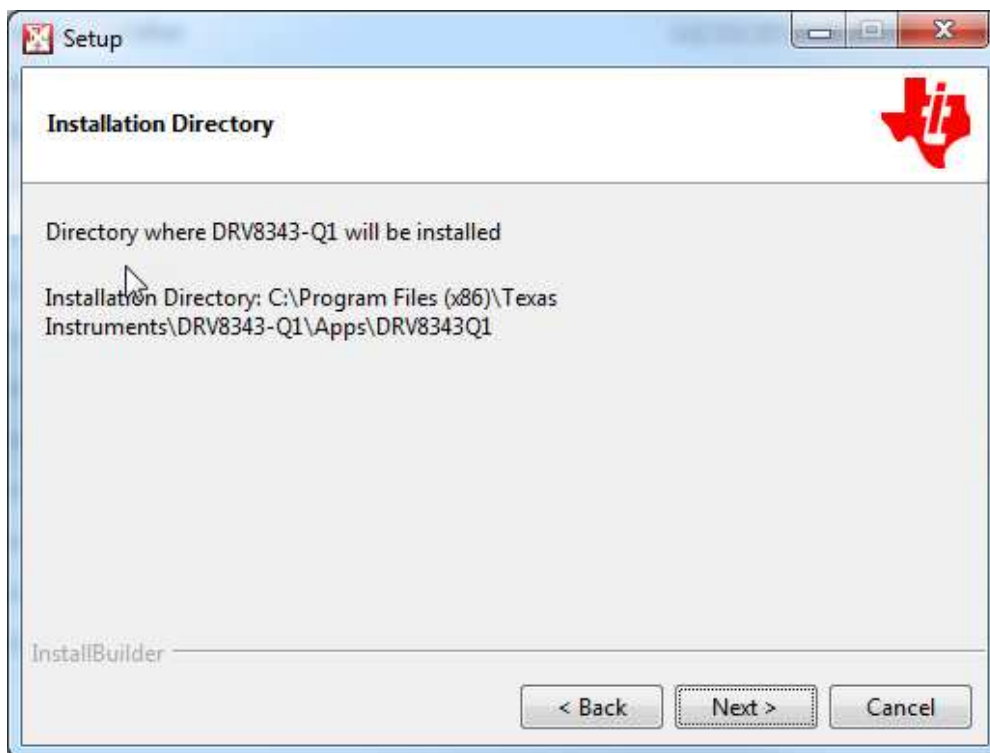

Figure 29. Installation Directory
- Step 4. Review the new *Setup* window which lists the installation directory where the GUI files will be installed (see Figure 29). Click the *Next* button to proceed.